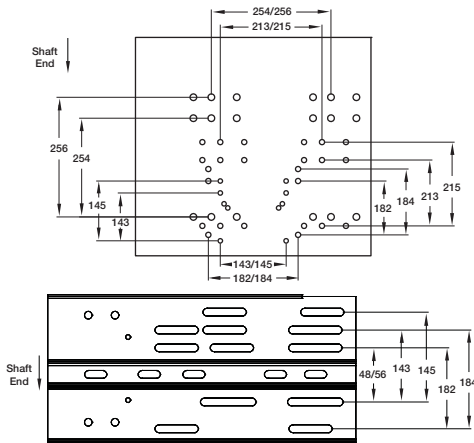

Figure 6 — Motor Mounting Positions Based on Motor Frame Size
1. Secure motor to plate using hardware provided. Holes will align when the motor frame (shaft end) is flush with the edge of the motor plate. Motor mounting hardware is included in the hardware kit attached to the drive frame. Refer to Figure 6 for mounting position based on motor frame size. Refer to page 6 for contents of kit.